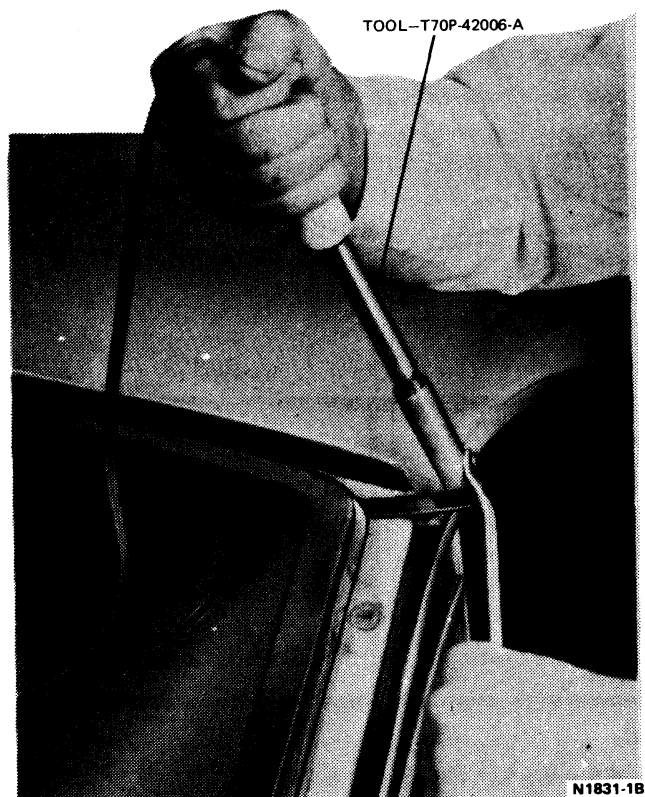

FIG. 6 Removing Butyl Type Seal—Typical
3. With an electric knife (special tool T70P-42006-A, or equivalent) insert the blade under the edge of the glass. Cut the butyl seal as close to the inside surface of the glass as possible. To cut the butyl at the lower corners of the windshield, move the handle of the tool as close to the corner as possible. Then, rotate the blade downward to cut the corner butyl seal and remove glass from the vehicle using the glass holding tool (Figs. 6, 7, and 8).
3. With an electric knife (special tool T70P-42006-A, or equivalent) insert the blade under the edge of the glass. Cut the butyl seal as close to the inside surface of the glass as possible. To cut the butyl at the lower corners of the windshield, move the handle of the tool as close to the corner as possible. Then, rotate the blade downward to cut the corner butyl seal and remove glass from the vehicle using the glass holding tool (Figs. 6, 7 and 9).